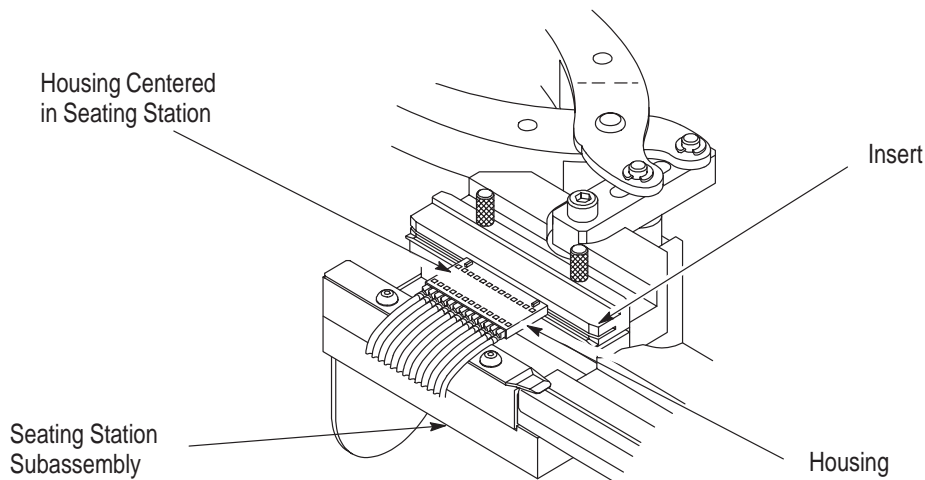

Figure 14
4. Slide the terminated contact assembly to the seating station and examine the terminations for quality and workmanship. See Figure 14.